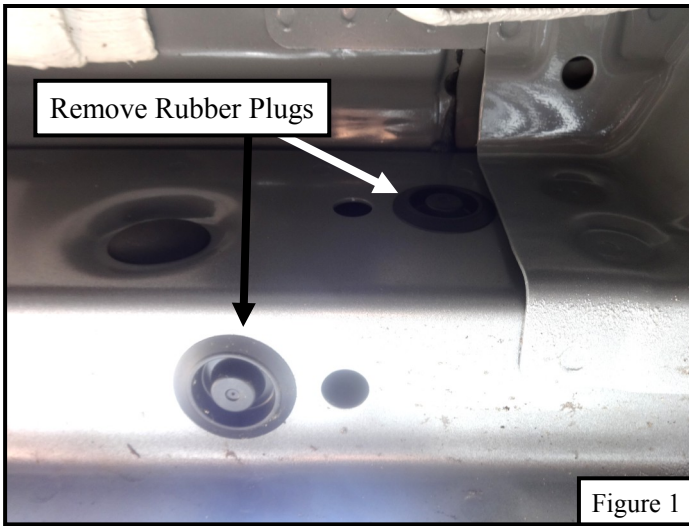

Figure 1
2. Remove the rubber plugs located on the rocker panel at each bracket mounting location. See **Figure 1**.